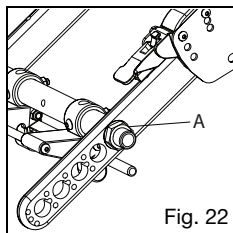

Fig. 22
2. Use a 24mm wrench to loosen (do not remove) both of the axle sleeve nuts (Fig. 22:A).